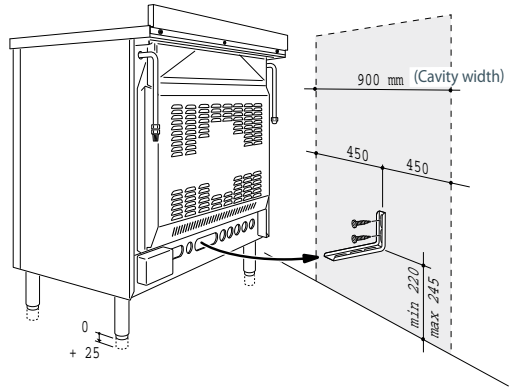

Fig. 20a Fitting the anti-tilt bracket
- 1 After you have located where the cooker is to be positioned, mark on the wall the place where the two screws of the anti-tilt bracket have to be fitted. Please follow the indications given in Fig. 20a.
- 4 Move the cooker to the wall and adjust the height of the anti-tilt bracket so that it can engage in the slot on the cooker's back, as shown in Fig.20a.